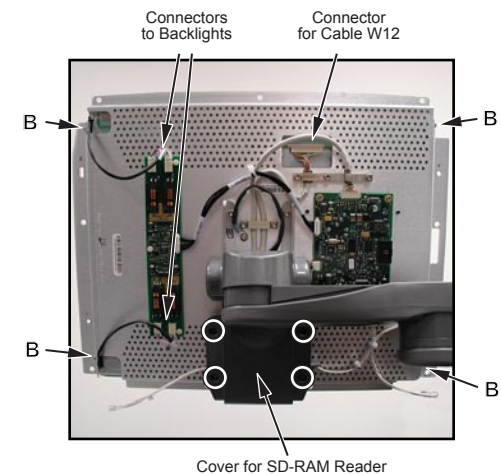

Figure 3-11 Removing the LCD
- 14.2 Disconnect cable W12 from rear of LCD (see Figure 3-11).
- 14.4 With one hand securing LCD to the frame, remove four setscrews securing LCD (screws are labeled B in Figure 3-11).
- 15.2 Remove four setscrews securing cover over SD-RAM reader (circled in Figure 3-11).